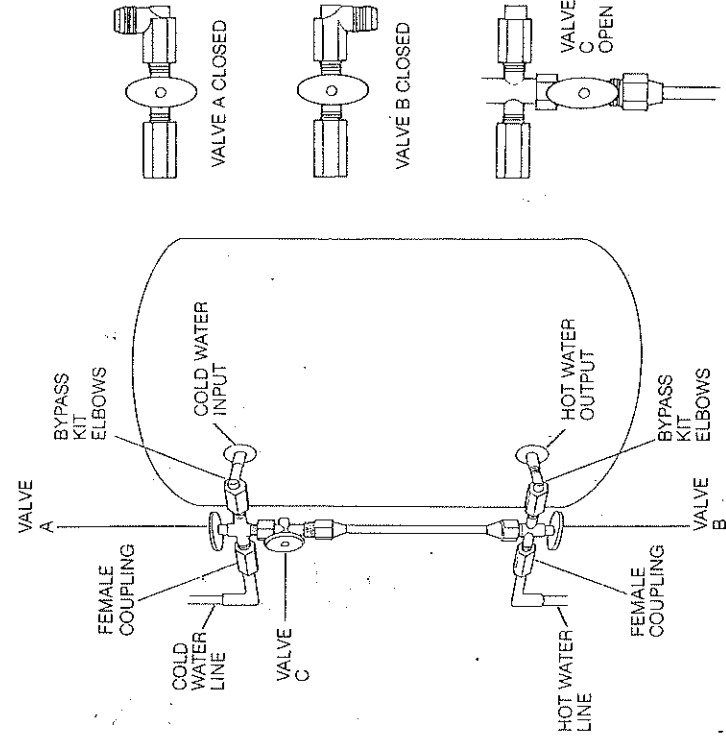

FIG. 2
6. Connect the hot and cold water fittings to the bypass kit using teflon tape if necessary. See figure 2. Be sure the small arrows on valves A and B point towards the water heater.